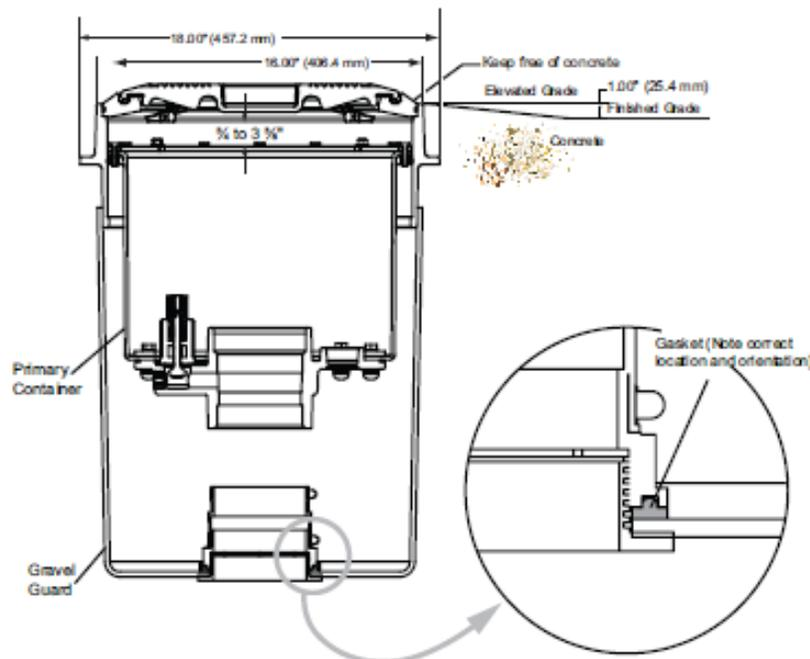

Figure 8: Defender Series™ Spill Container Overview
21. Pour concrete around the Defender Series™ spill container, making sure to dome the concrete at least 1" (2.54 cm) to allow for adequate runoff. The sloping of the concrete should begin at the outer edge of the concrete ring tabs (Figure 8). Keep the snow plow ring and cover clean and free of any concrete splatter (the snow plow ring must be able to be removed if service is needed).